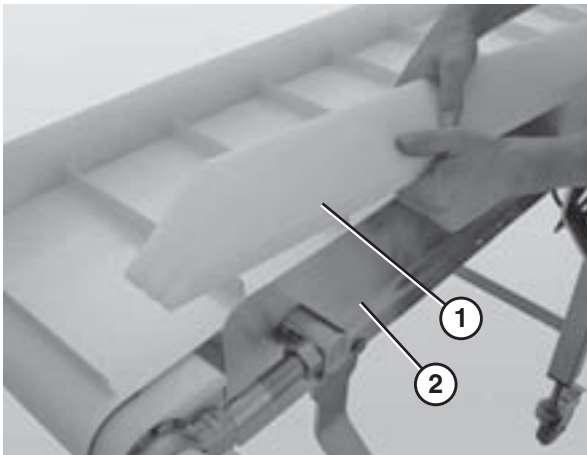

Figure 42
2. Remove the guide (Figure 42, item 1) from the conveyor (Figure 42, item 2).